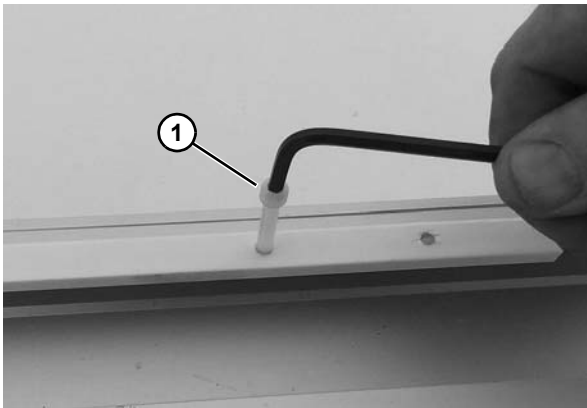

Figure 41
1. Insert the nylon screws (**Figure 41, item 1**) into the holes using a hex driver until the screw is flush with the bottom of the slide rail.